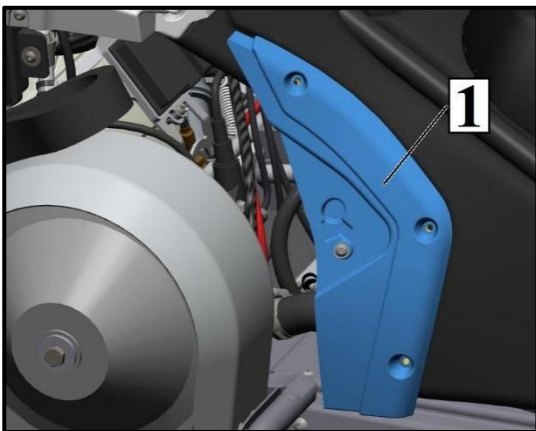

Fig.12
Before starting to change the filter, make sure that the fuel level in the tank is lower than the fuel module (position 9 in Figure 12)
4.Remove the left plastic cover of the oil tank on the sled (pose 1, figure 12).